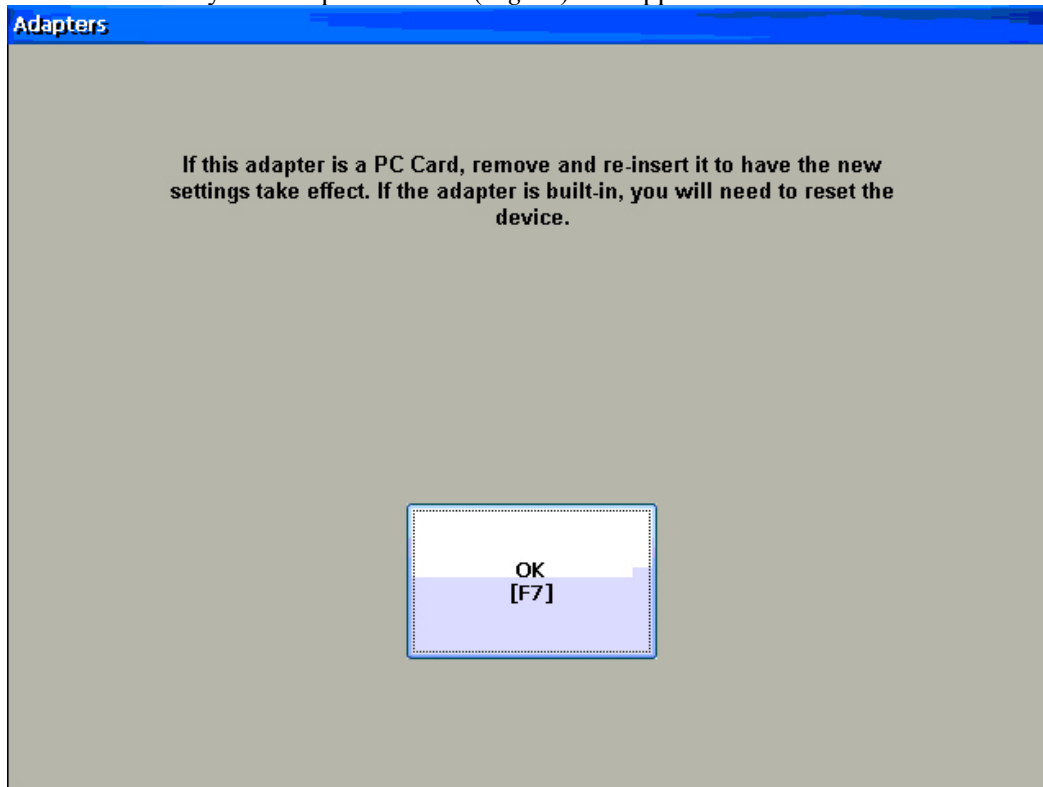

Fig 31
45. After a short delay the Adapters Screen (*Fig 31*) will appear.